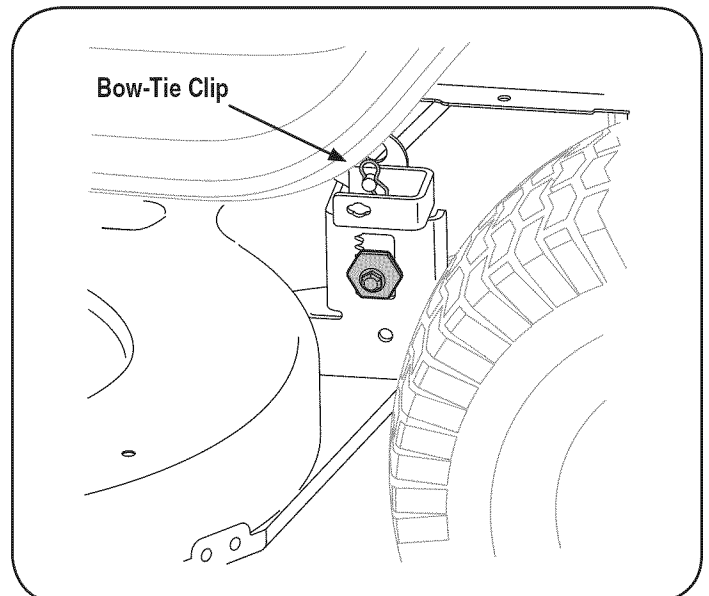

Figure 17
5. Looking at the cutting deck from the left side of the tractor, locate the bow-tie pin that secures the deck support rod on the rear left side of the deck. See Figure 17. Remove the bow-tie pin that secures the deck support rod, and carefully remove the deck support from the deck lift arm.